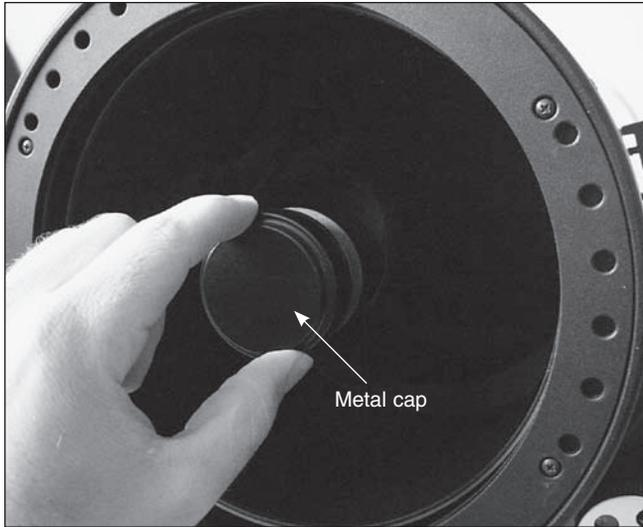

Figure 6. Unthread the metal cap that covers the secondary mirror collimation screws.
1. Remove the metal cap that covers the secondary mirror collimation screws by carefully unthreading it (Figure 6). Be careful not to touch the corrector glass.